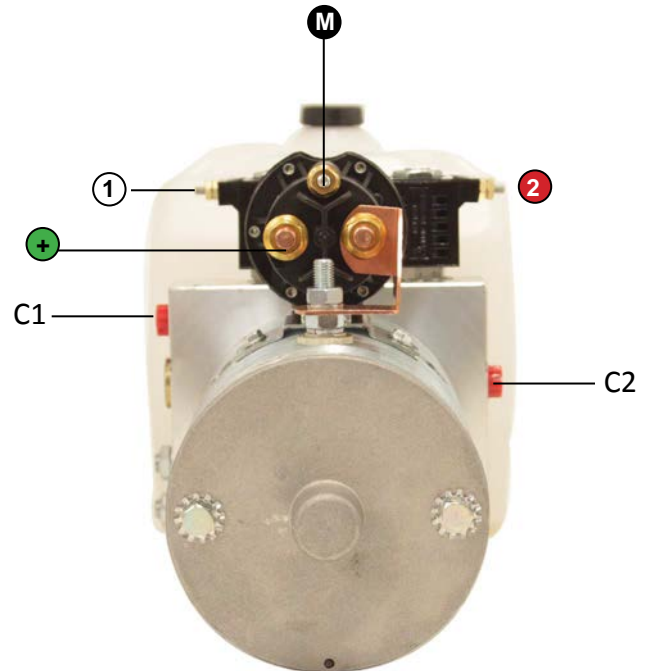

fig. 1
- Installation of a PS025 safety cut off switch is highly recommended (**fig. 1**).